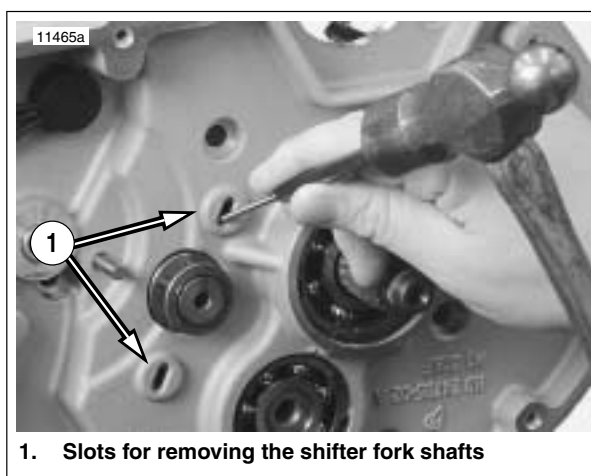

Figure 6-56. Removing Shifter Fork Shafts
1. See Figure 6-56. Remove shifter fork shafts by inserting a small flat punch in the slots and tapping on the end of each shaft until it falls free.